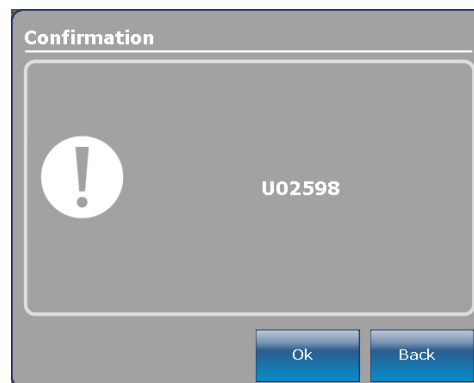

Figure 37: Serial Number Confirmation Screen
3. After pressing the **Continue** button, the serial number will be saved and the serial number confirmation screen (Figure 37) will be displayed. Press the **OK** button.